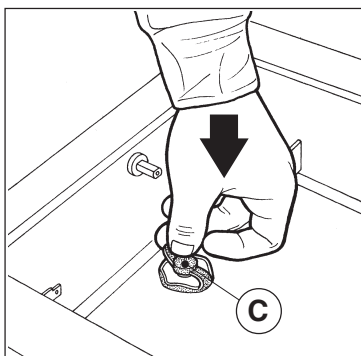

Fig. 4
- 5) Insert the safety cap (C) in the central opening as shown in (Fig. 4).